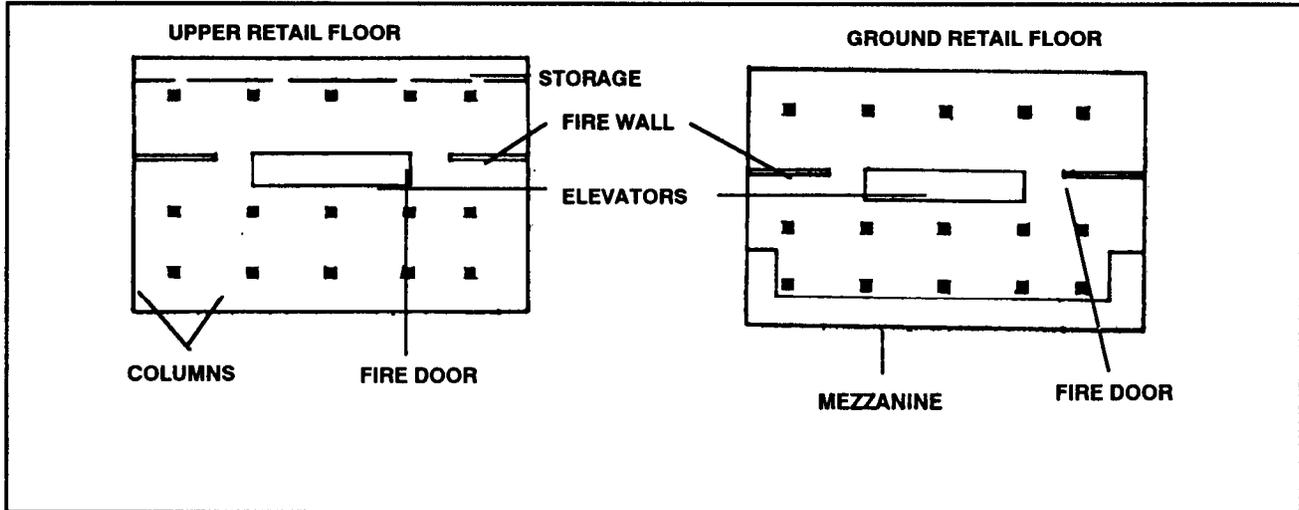

Figure H-11. Heavy-clad framed department store.
(2) Department stores normally have large, open interiors (Figure H-11). Such areas permit firing ATGMs (if there are adequate fields of fire). Often a mezzanine level with a large backblast area permits firing down onto tanks. Steel fire doors often exist between sections of the store. The steel fire doors are activated by heat. Once closed, they are difficult to breach or force open, but they effectively divide the store into sections (Figure H-12).